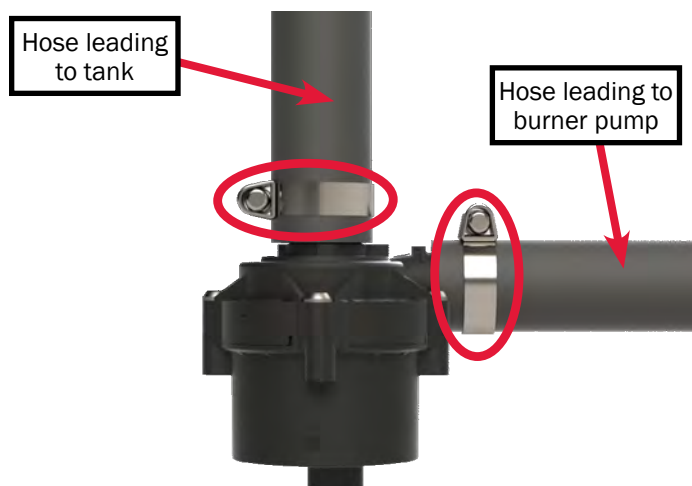

Figure 54
5. Remove both hose clamps from the barbs of the pump (Figure 54).